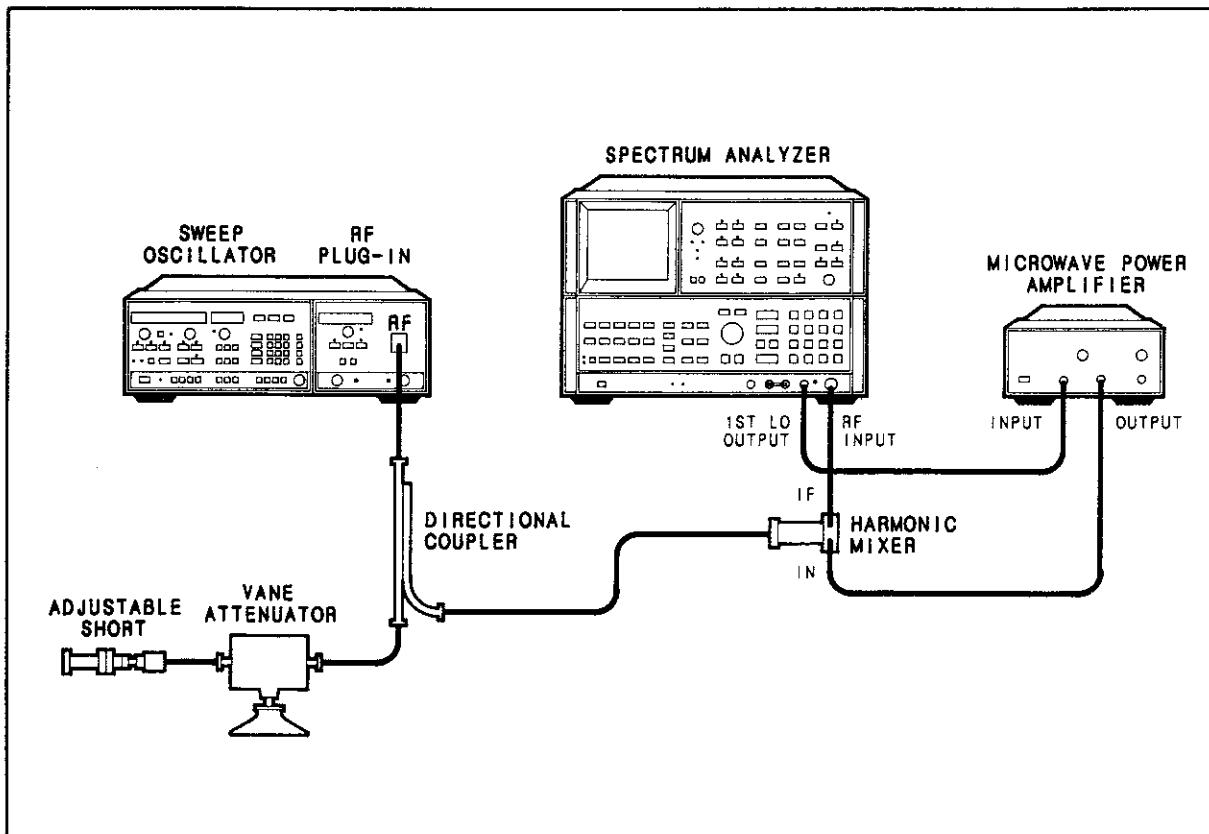

Figure 4-8. Frequency Change with 3:1 Load SWR Test Setup
11. Connect the equipment as shown in Figure 4-8. Set the vane attenuator to 3 dB. Press 8350A/B **[INSTR PRESET] [CW] [3] [3] [GHz]**.